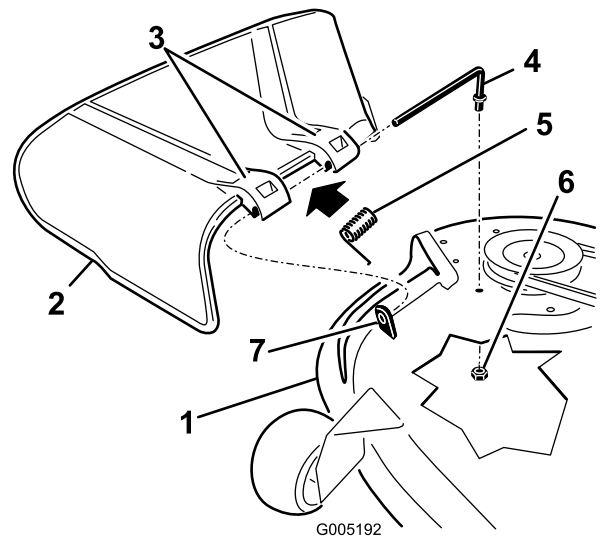

Figure 60
1. Remove the nut (3/8 inch) from the rod under the mower (Figure 60).
2. Slide the rod out of the short standoff, spring, and grass deflector (Figure 60).
4. Replace the grass deflector (Figure 60).
7. Slide rod through the second grass-deflector bracket (Figure 60).
9. Secure the rear end of the rod into the mower with a nut (3/8 inch) as shown in Figure 60.